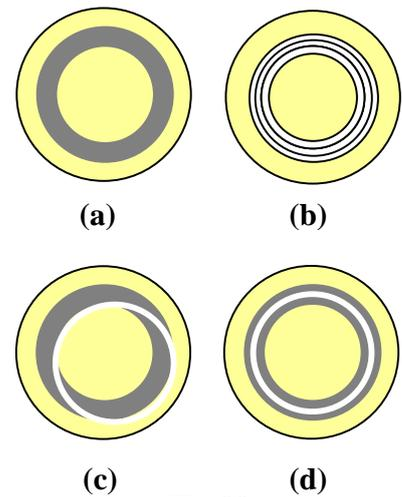

Fig.23
- g. Turn the top of the telescope (**Fig.24**) until the dark ring image is in focus. If the dark ring is hard to find, put a normal white print paper on the stage and under the objective then you will see the dark ring as shown in **Fig.23 (a)**.
- h. If the bright ring is still obscure as in **Fig.23 (b)**, raise or lower the condenser by adjusting the condenser focusing knob (or the microscope focusing knob if necessary) till the bright ring is in focus and the dark ring is visible.
- i. If the two ring images are not coincided as shown in **Fig.23 (c)**, adjust the two centering screws on the condenser ring plate till the two rings are coincided with each other as shown in **Fig.23 (d)**.